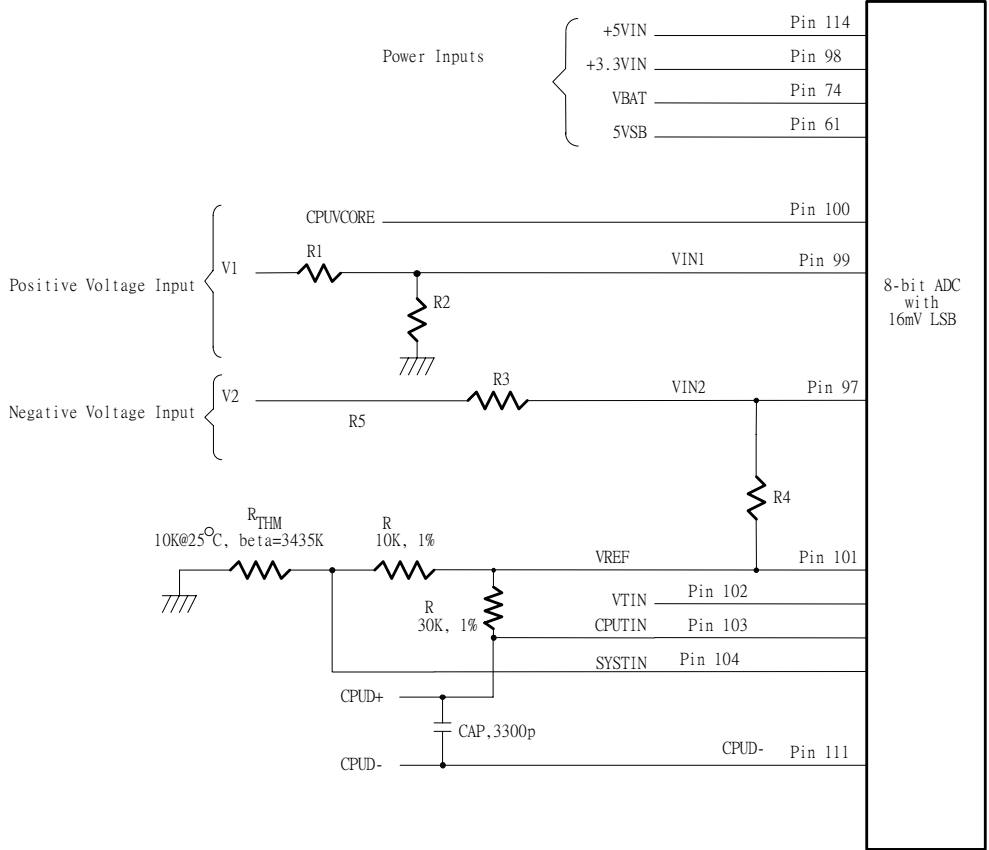

Figure. 6.2
The maximum input voltage of the analog pin is 4.096V because the 8-bit ADC has a 16mv LSB. Really, the application of the PC monitoring would most often be connected to power suppliers. The CPU V-core voltage, +3.3V, battery(pin 74) and 5VSB voltage can directly connected to these analog inputs. The +12V voltage inputs should be reduced a factor with external resistors so as to obtain the input range. As Figure 6.2 shows.
The W83637HF can connect three thermistors to measure three different envirmnt temperature. The specification of thermistor should be considered to (1) β value is 3435K, (2) resistor value is 10K ohms at 25°C. In the Figure 6.2, the themistor is connected by a serial resistor with 10K Ohms, then connect to VREF (Pin 101).